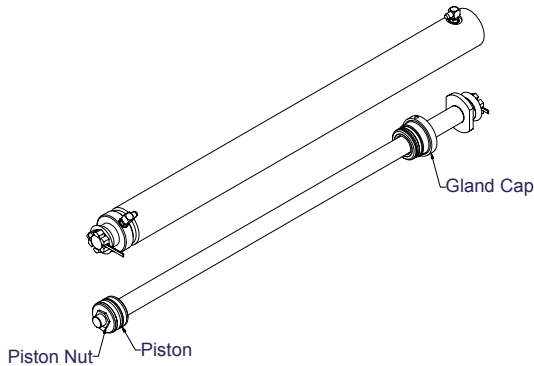

Figure 4-9, Piston Seal
6. Remove the piston retaining nut and remove the piston. (Figure 4-9)